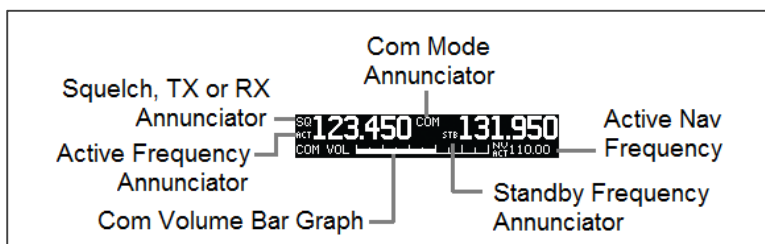

Figure 7-3. Com Frequency Selection
1. Press **C/N**, if necessary, to access the Com radio function. The COM annunciation will appear on the display (Figure 7-3).
Refer to Figure 7-3 for Com annunciator display descriptions.